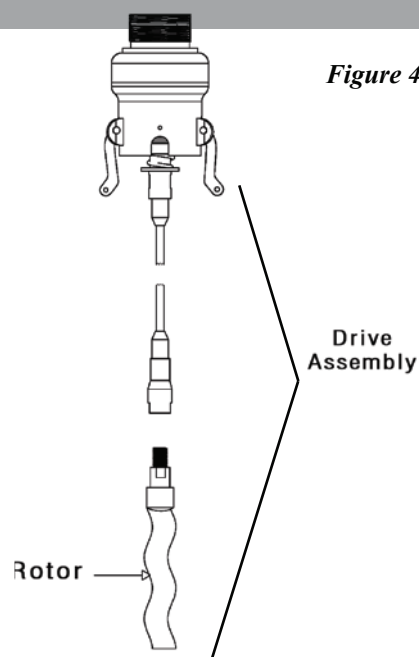

Figure 4
3. The rotor is located at the bottom of the drive assembly (see Figure 4).